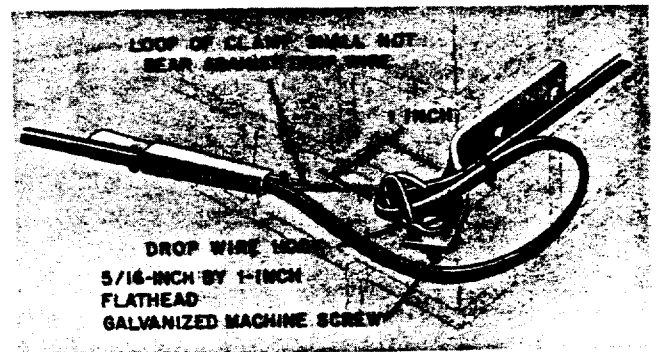

Fig. 3—Corner Bracket Equipped With Drop Wire Hook
1.05 Drop wire hooks may be fastened directly to the bracket when the drop wires do not require an insulated attachment (Fig. 3).